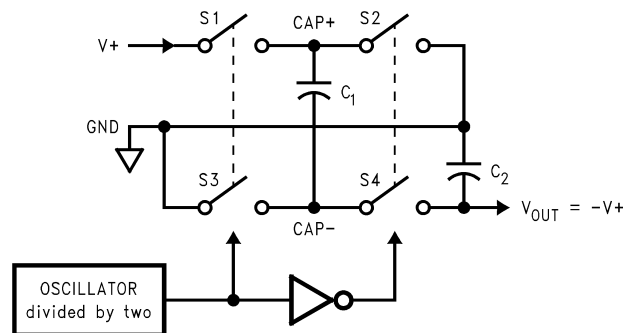

Figure 10. Voltage Inverting Principle
The LM2664 contains four large CMOS switches which are switched in a sequence to invert the input supply voltage. Energy transfer and storage are provided by external capacitors. Figure 10 illustrates the voltage conversion scheme. When S_1 and S_3 are closed, C_1 charges to the supply voltage V_+ . During this time interval, switches S_2 and S_4 are open. In the second time interval, S_1 and S_3 are open; at the same time, S_2 and S_4 are closed, C_1 is charging C_2 . After a number of cycles, the voltage across C_2 will be pumped to V_+ . Since the anode of C_2 is connected to ground, the output at the cathode of C_2 equals $-V_+$ when there is no load current. The output voltage drop when a load is added is determined by the parasitic resistance ($R_{ds(on)}$ of the MOSFET switches and the ESR of the capacitors) and the charge transfer loss between capacitors. Details will be discussed in the following application information section.
- R_{SW} is the sum of the ON resistance of the internal MOSFET switches shown in Figure 10. (1)